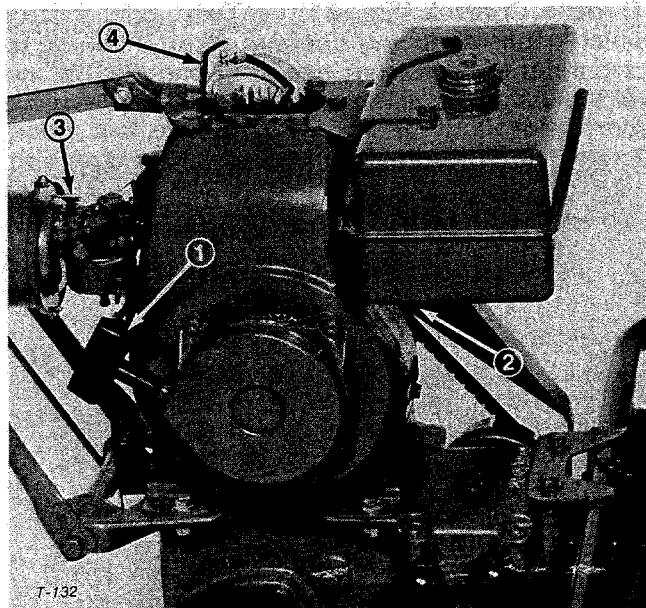
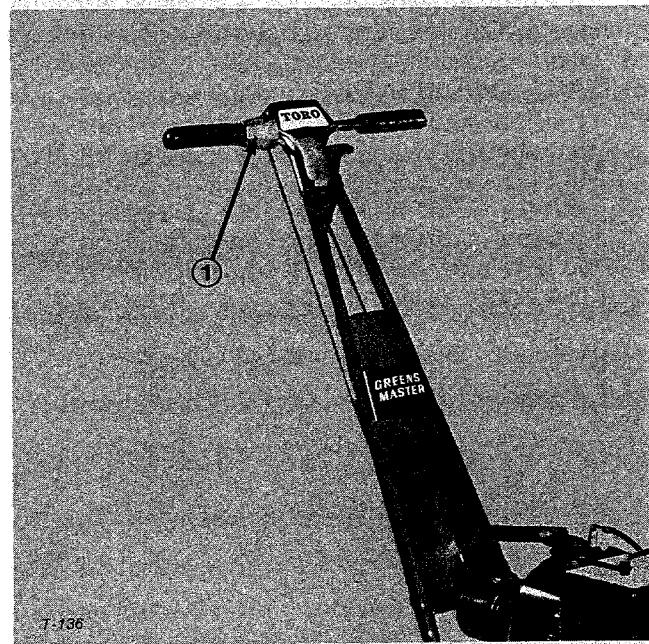

Figure 15
Figure 16
Choke Lever (Fig. 15) — Rotate lever fully counterclockwise to start a cold engine. Move lever back in increments as engine warms up until choke is fully open. Choke not normally used when engine is warm from previous operation.
Recoil Starter (Fig. 15) — Pull recoil starter handle to start engine.
Fuel Shut-off Valve (Fig. 15) — At bottom of fuel tank. Open before beginning of operation. Shut off when mower is to be stored for a lengthy period.
Engine Stop Switch (Fig. 15) — Located at top of engine. Push downward and hold against spark plug to stop engine.
2. Open fuel valve on fuel tank (Fig. 15).
3. Move choke lever (Fig. 15) to CHOKE position before starting a cold engine.
4. Stand behind the machine, move the throttle control grip to FAST position (Fig. 16). Pull recoil starter handle out until positive engagement results. Pull handle vigorously to start engine and allow rope to recoil slowly. Open choke as engine warms up.
5. To stop engine during operation, move traction and reel drive controls to DISENGAGE position, throttle control to SLOW (Fig. 16) and push engine stop switch down and hold against top of spark plug (Fig. 15).
7. Close fuel valve before storing machine (Fig. 15).